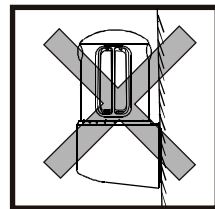

Fig. 3
7. If fitted outdoors, avoid turning the sensor head upwards as the sensor can be damaged by water. Fig. 3